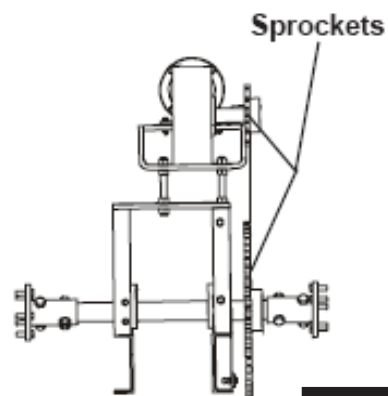

FIG. TD4
- G. Move the Bottom Sprocket back into position and lock in place. Make sure the sprockets are lined up as in FIG TD4.